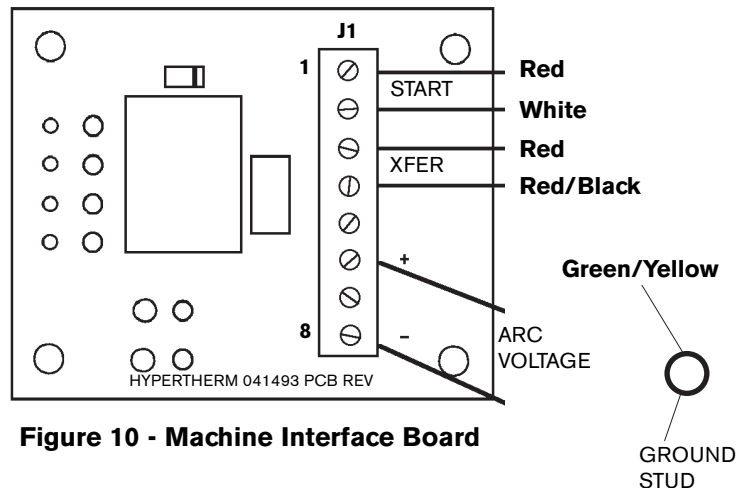

**Figure 9 - Feeding Internal Machine Interface Cable to Board**
15. Feed the internal machine interface cable from the rear panel up to the machine interface board – Fig. 9.